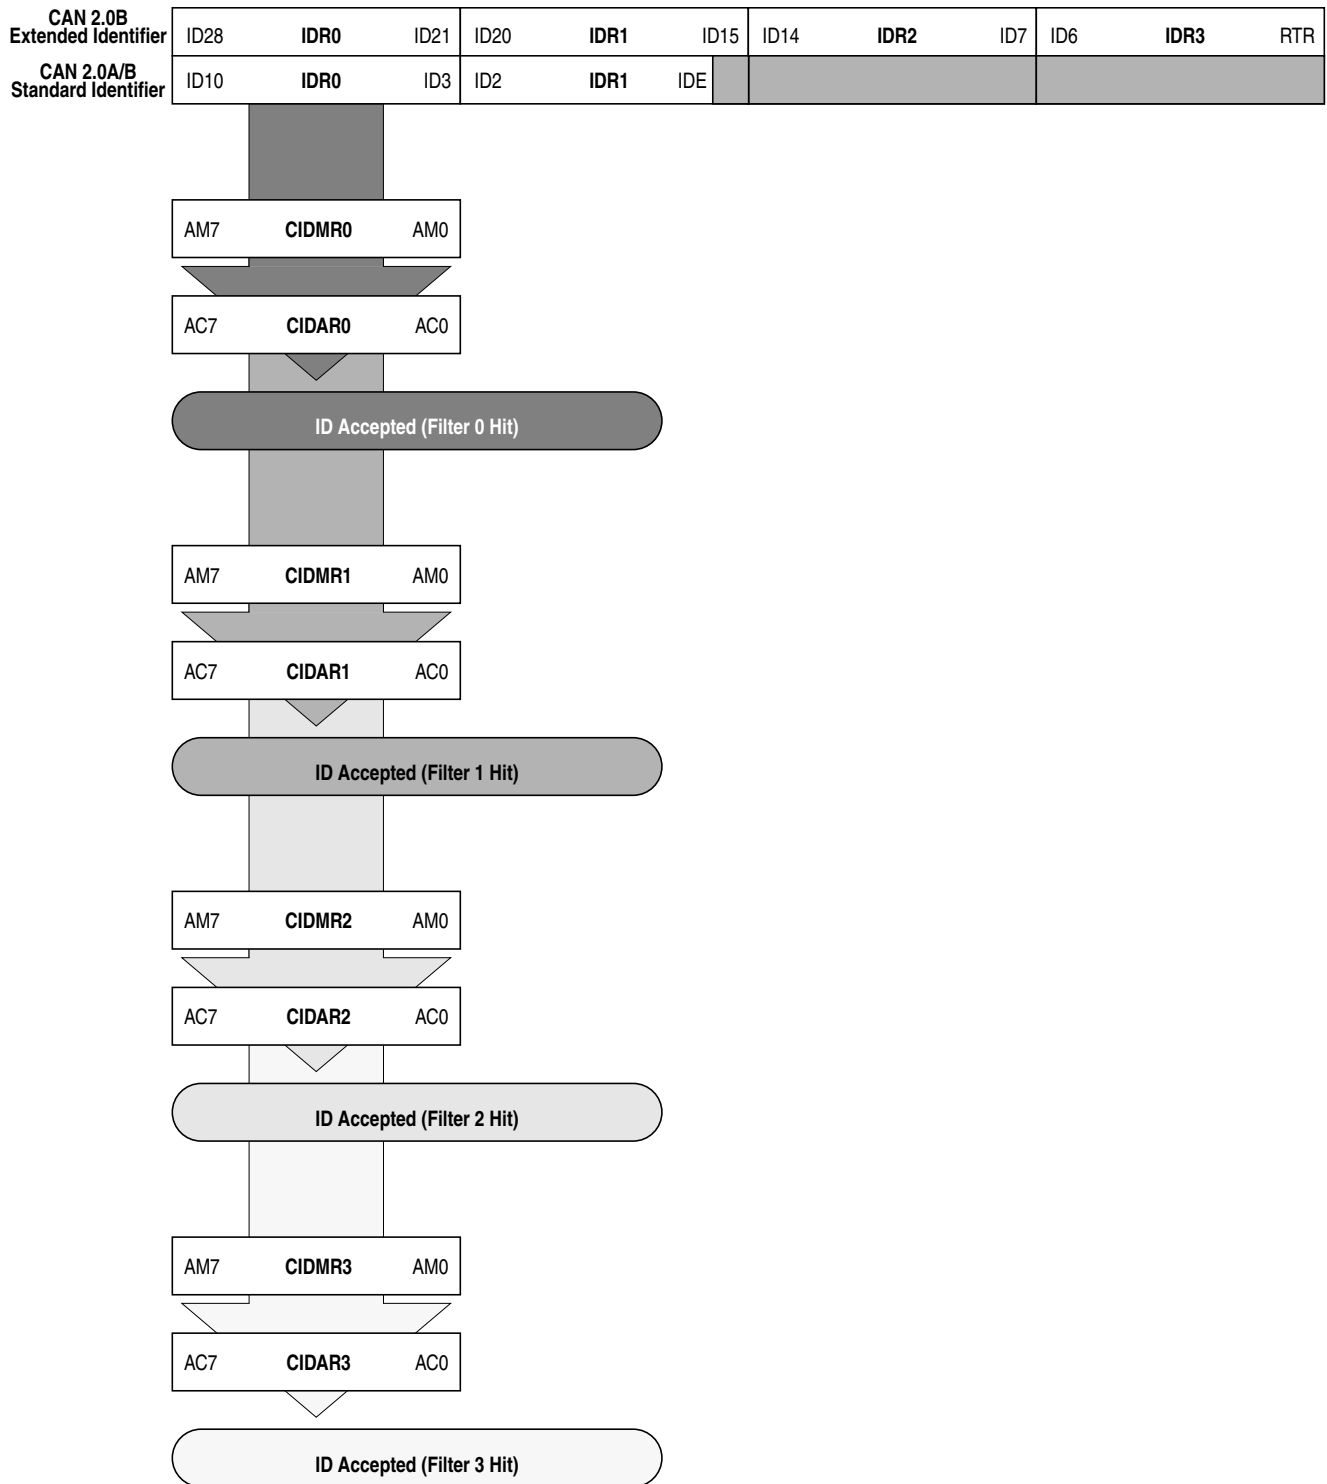

Figure 16-42. 8-bit Maskable Identifier Acceptance Filters
- Figure 16-42 shows how the first 32-bit filter bank (CANIDAR0–CANIDAR3, CANIDMR0–CANIDMR3) produces filter 0 to 3 hits. Similarly, the second filter bank (CANIDAR4–CANIDAR7, CANIDMR4–CANIDMR7) produces filter 4 to 7 hits.